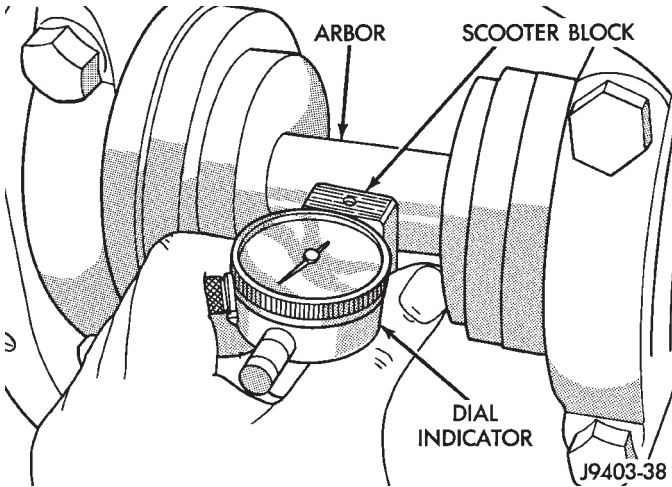

Fig. 70 Pinion Gear Depth Measurement—Typical
(5) Assemble Dial Indicator C-3339 into Scooter Block D-115-2 and secure set screw.
(6) Place Scooter Block/Dial Indicator in position in axle housing so dial probe and scooter block are flush against the surface of the pinion height block. Hold scooter block in place and zero the dial indicator face to the pointer. Tighten dial indicator face lock screw.
(7) With scooter block still in position against the pinion height block, slowly slide the dial indicator probe over the edge of the pinion height block. Observe how many revolutions counterclockwise the dial pointer travels (approximately 0.125 in.) to the out-stop of the dial indicator.
(8) Slide the dial indicator probe across the gap between the pinion height block and the arbor bar with the scooter block against the pinion height block (Fig. 70). When the dial probe contacts the arbor bar, the dial pointer will turn clockwise. Bring dial pointer back to zero against the arbor bar, do not turn dial face. Continue moving the dial probe to the crest of the arbor bar and record the highest reading. If the dial indicator can not achieve the zero reading, the rear bearing cup or the pinion depth gauge set is not installed correctly.